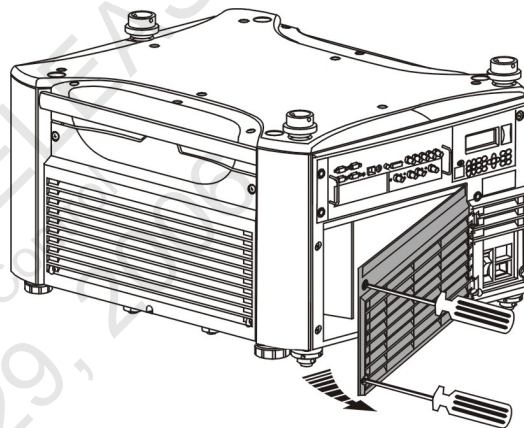

Figure 1. Open Lamp Door
Use a #2 Phillips screwdriver to loosen the ¼-turn lock screws (2) securing the lamp door, located at the rear of the projector below the input panel. Refer to Figure 1.